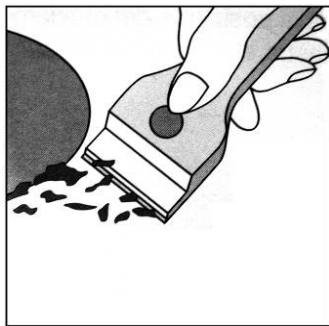

Fig.1
- Accidental spills must be cleaned immediately to prevent further damage. If something is melted on top the surface, it is OK to use scraper/razor blade to remove it but you must be careful not to scratch the surface itself (Fig 1).